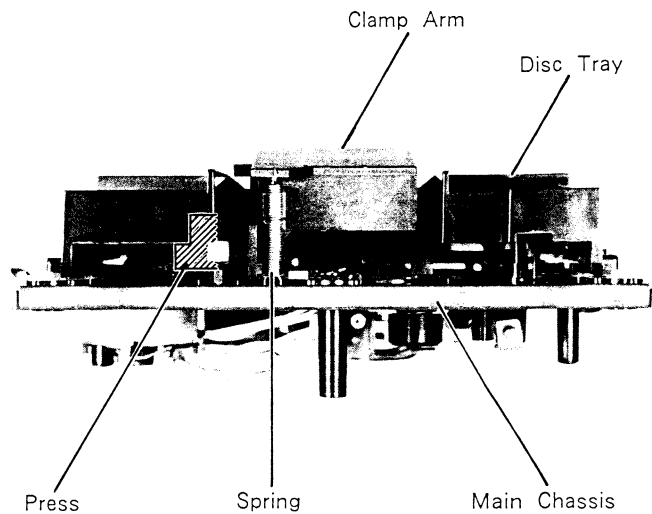

Figure 6
- (1) Pull out the disc tray in the arrow direction by pressing slant position of the disc tray as shown in Figures 6 and 7.
- (1) Remove one spring between the main chassis and the clamp arm as shown in Figure 6.